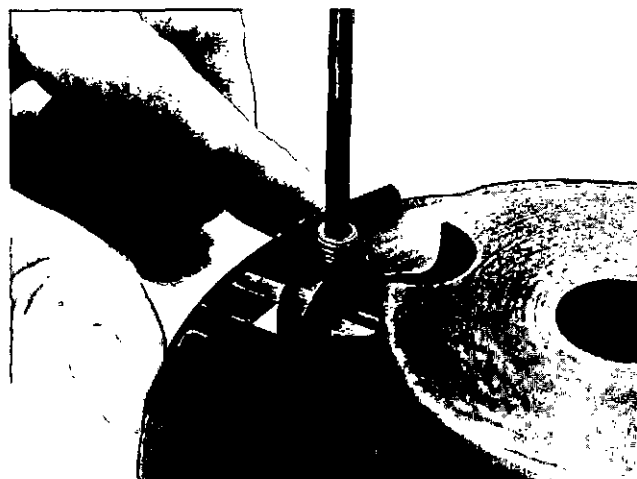

Fig. 1-14. Install The Cutting Tool.
- Hold a 0.010 inch [0.25 mm] thick feeler gauge around the edge of the cutter plate and over the end of the slot for the cutting tool, Fig. 1-14.